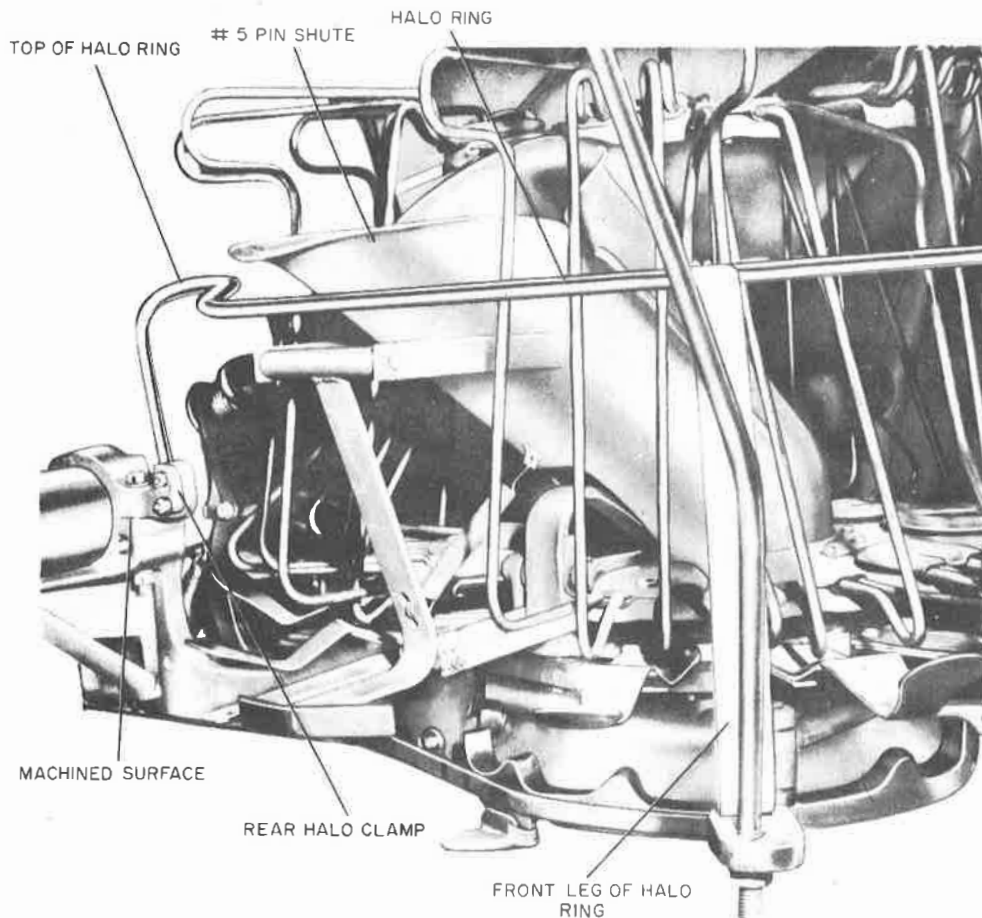

Figure 91. Halo Ring Adjustment
38. TURRET HALO RING ADJUSTMENT. (FIGURE 91)